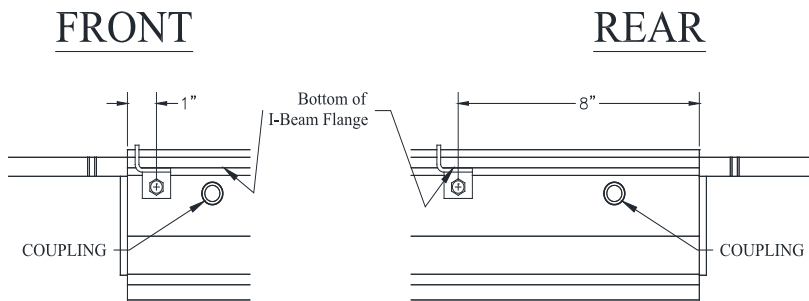

Figure 7
16. On the runway with air supply on the inner side, place Cable Bracket on underside of runway as shown in **Fig 7**. Drill 3/8" hole thru I-Beam and secure bracket in place using 5/16"-18 x 1" Lg. hex bolt, hex nut, and lock washer.